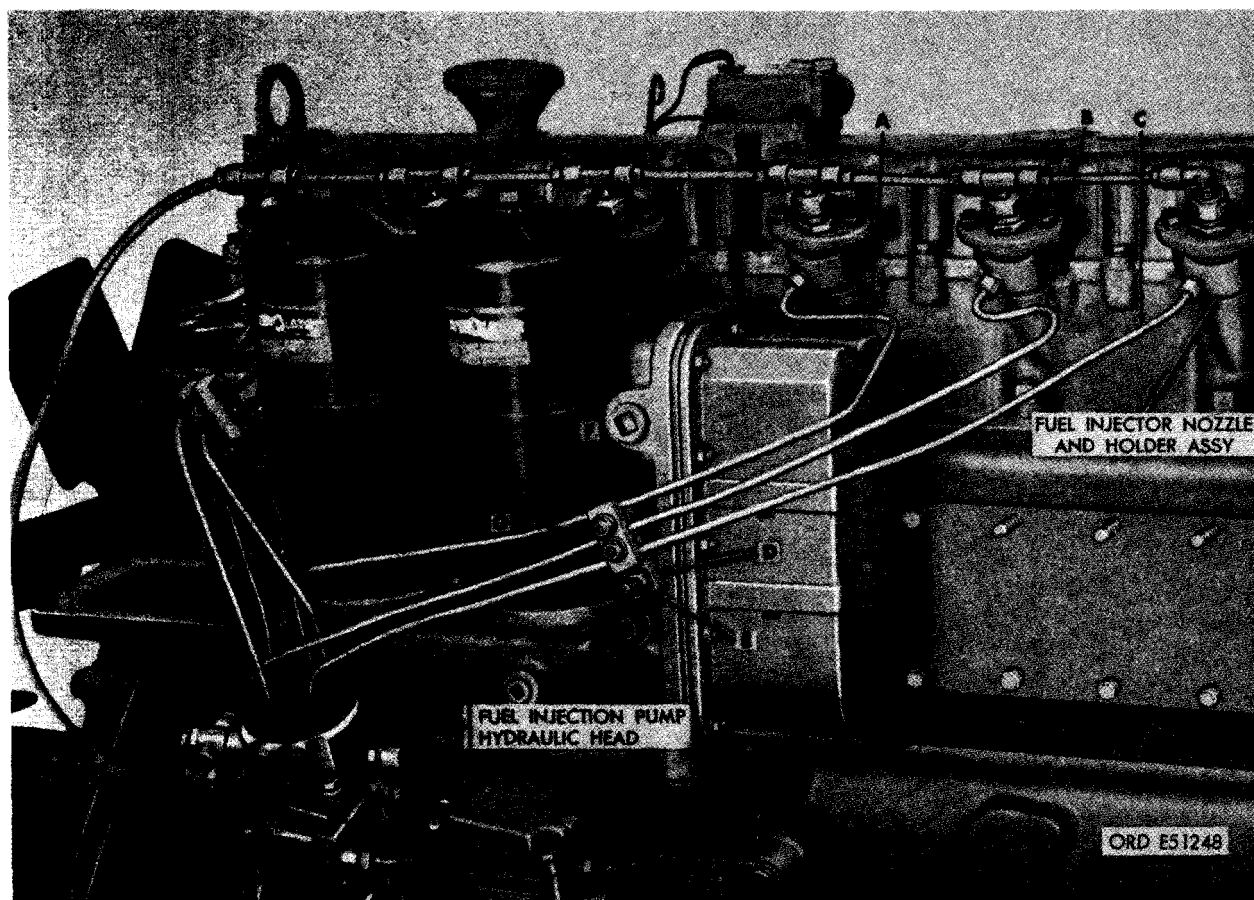

FIGURE 510. CONNECTING CYLINDER NO. 4, 5, AND 6 FUEL INJECTION TUBES (EARLY MODEL ENGINES).
- (3) Figure 510. (A) Connect fuel injection tube to nozzle and holder in cylinder No. 4. Remove dust cover from No. 4 port opening in pump hydraulic head and connect tube. (B) Connect fuel injection tube to nozzle and holder in cylinder No. 5. Remove dust cover from No. 5 port opening in pump hydraulic head and connect tube. (C) Connect fuel injection tube to nozzle and holder in cylinder No. 6. Remove dust cover from No. 6 port opening in pump hydraulic head and connect tube. (D) Install injection tube inner clamp on oil cooler and oil filter housing stud. Position clamp so tubes fit in recesses.